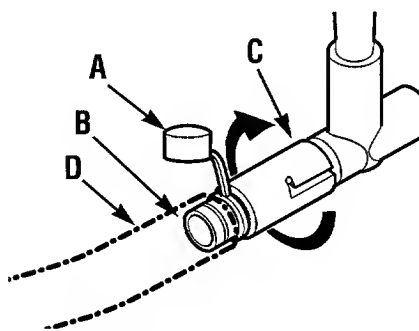

Figure 5-2: Engine oil drain port.
3. Remove protective cap (A, Figure 5-2) to expose oil drain port (B).
4. Push oil drain hose (D) (included in hardware bag with unit) onto oil drain port. Route other end of hose to an appropriate oil collection receptacle.
5. Twist oil drain fixture (C) to the open position. Pull out. Drain oil completely.
6. Push in and twist oil drain fixture to the closed position. Remove drain hose. Replace protective cap (A).